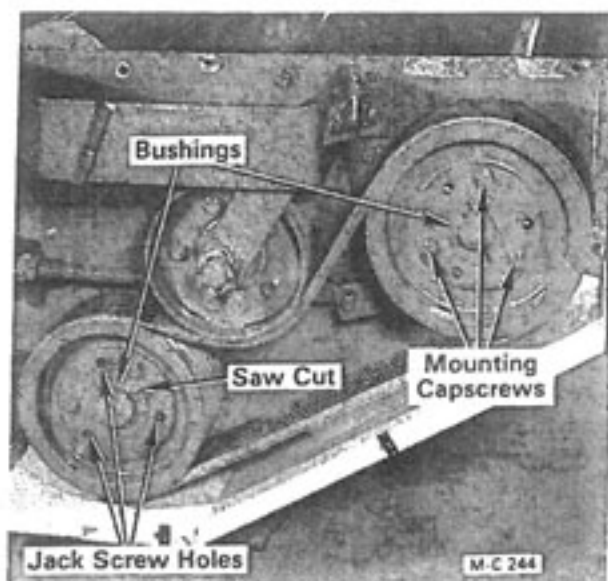

Figure 37
3. Remove the three mounting capscrews, see Figure 37. Thread the capscrews into the three jack screw holes in the pulley. Tighten the three capscrews progressively and evenly until the pulley is loose on the bushing.